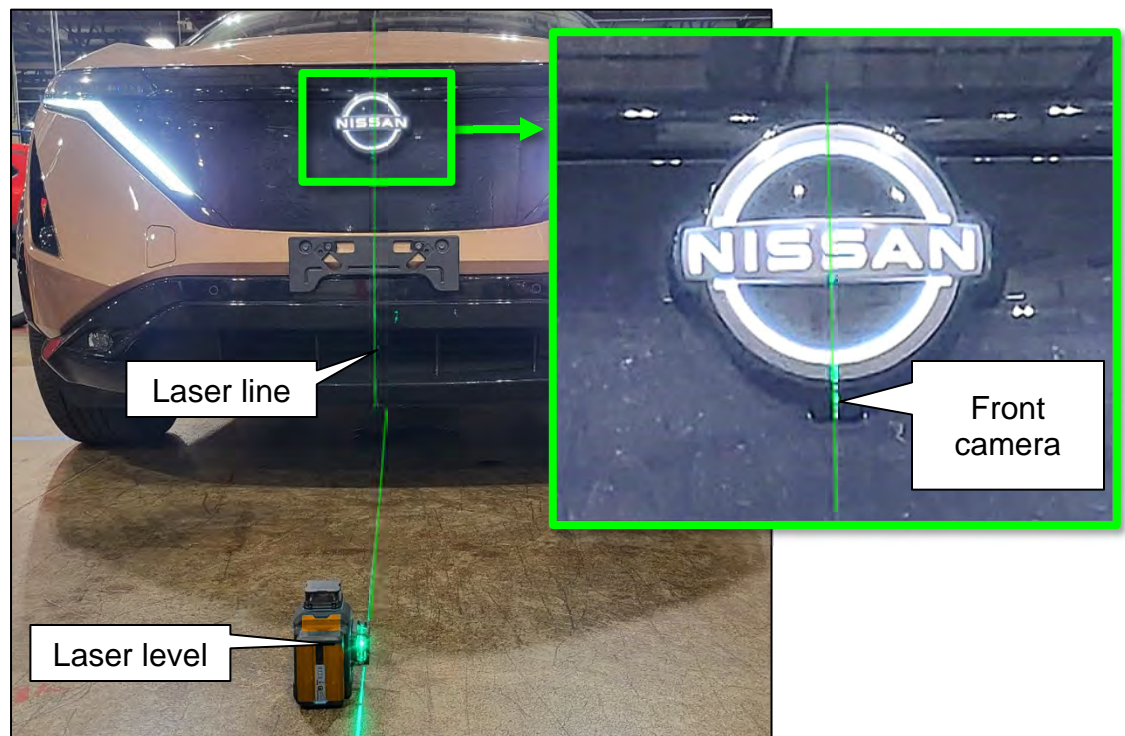

Figure 63
40. Place the laser level approximately 800 mm (31.5 in.) from the front of the vehicle and align the laser with the front camera, as shown in Figure 63.